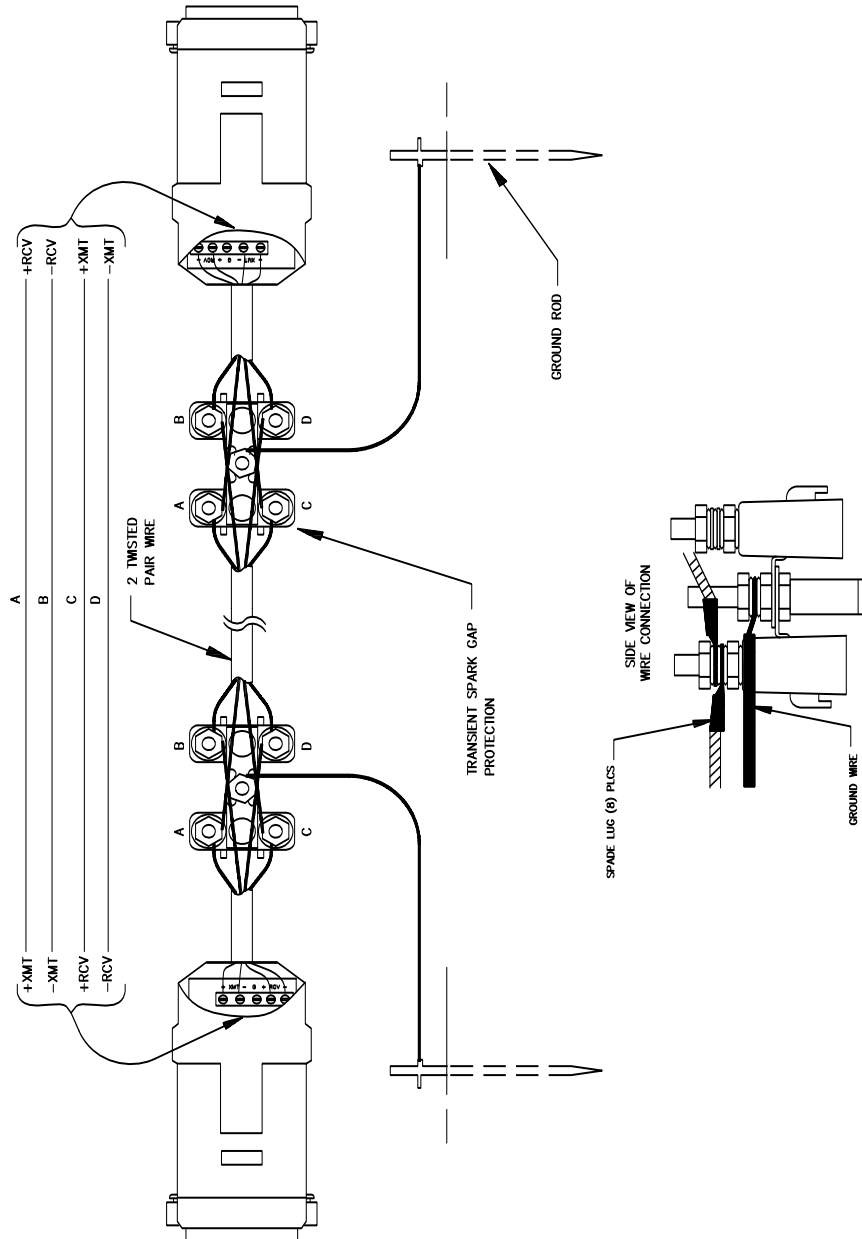

FIGURE 5-2. Installation of Spark Gap Protection
FIGURE 5-2 shows a typical set-up of the RAD modems. Installation is as follows:
3. Wiring connections are made as shown in FIGURE 5-2. Note wires labeled A and B are one twisted pair of the cable. Wires labeled C and D are the other twisted pair.
4. Transients induced on the communication line may damage any electronics connected at either end of the line. To decrease the chances for damage, spark gaps should be installed as shown in FIGURE 5-2. The transient protection shown may be purchased from Campbell Scientific (pn 5563 shown in FIGURE 5-2, pn 6536 includes a plastic case, pn 6361 includes hardware for mounting to ground lug of Campbell Scientific